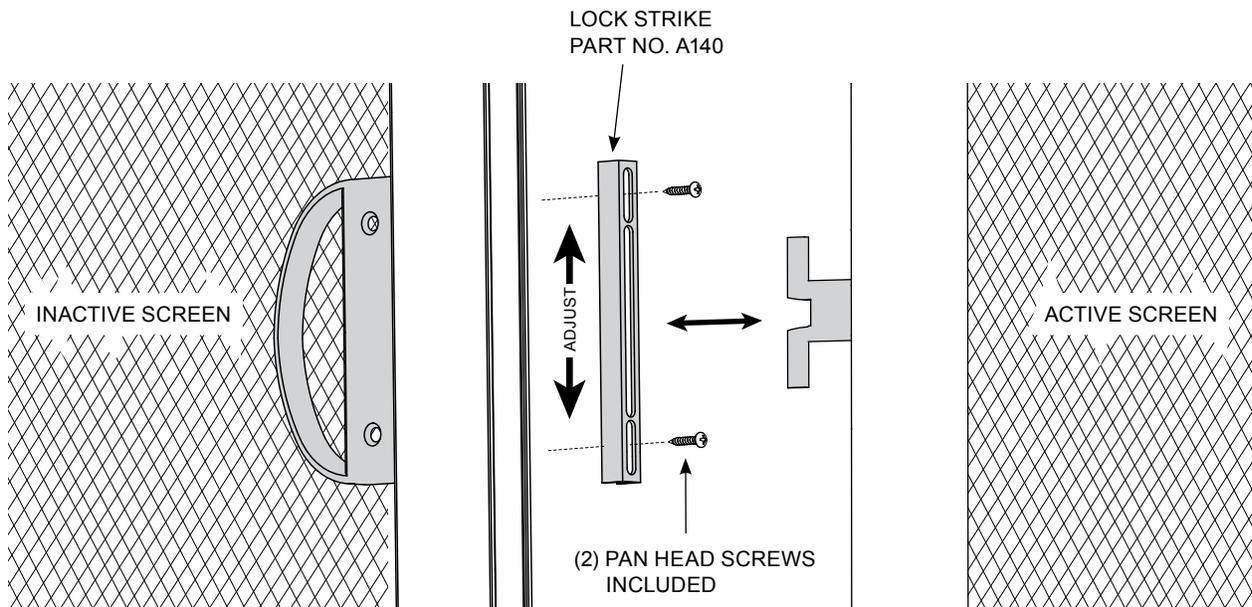

FIG. 48
3. Install OXXO screen lock strike on the inactive panel. Position so screen catch moves freely. (FIG. 48)